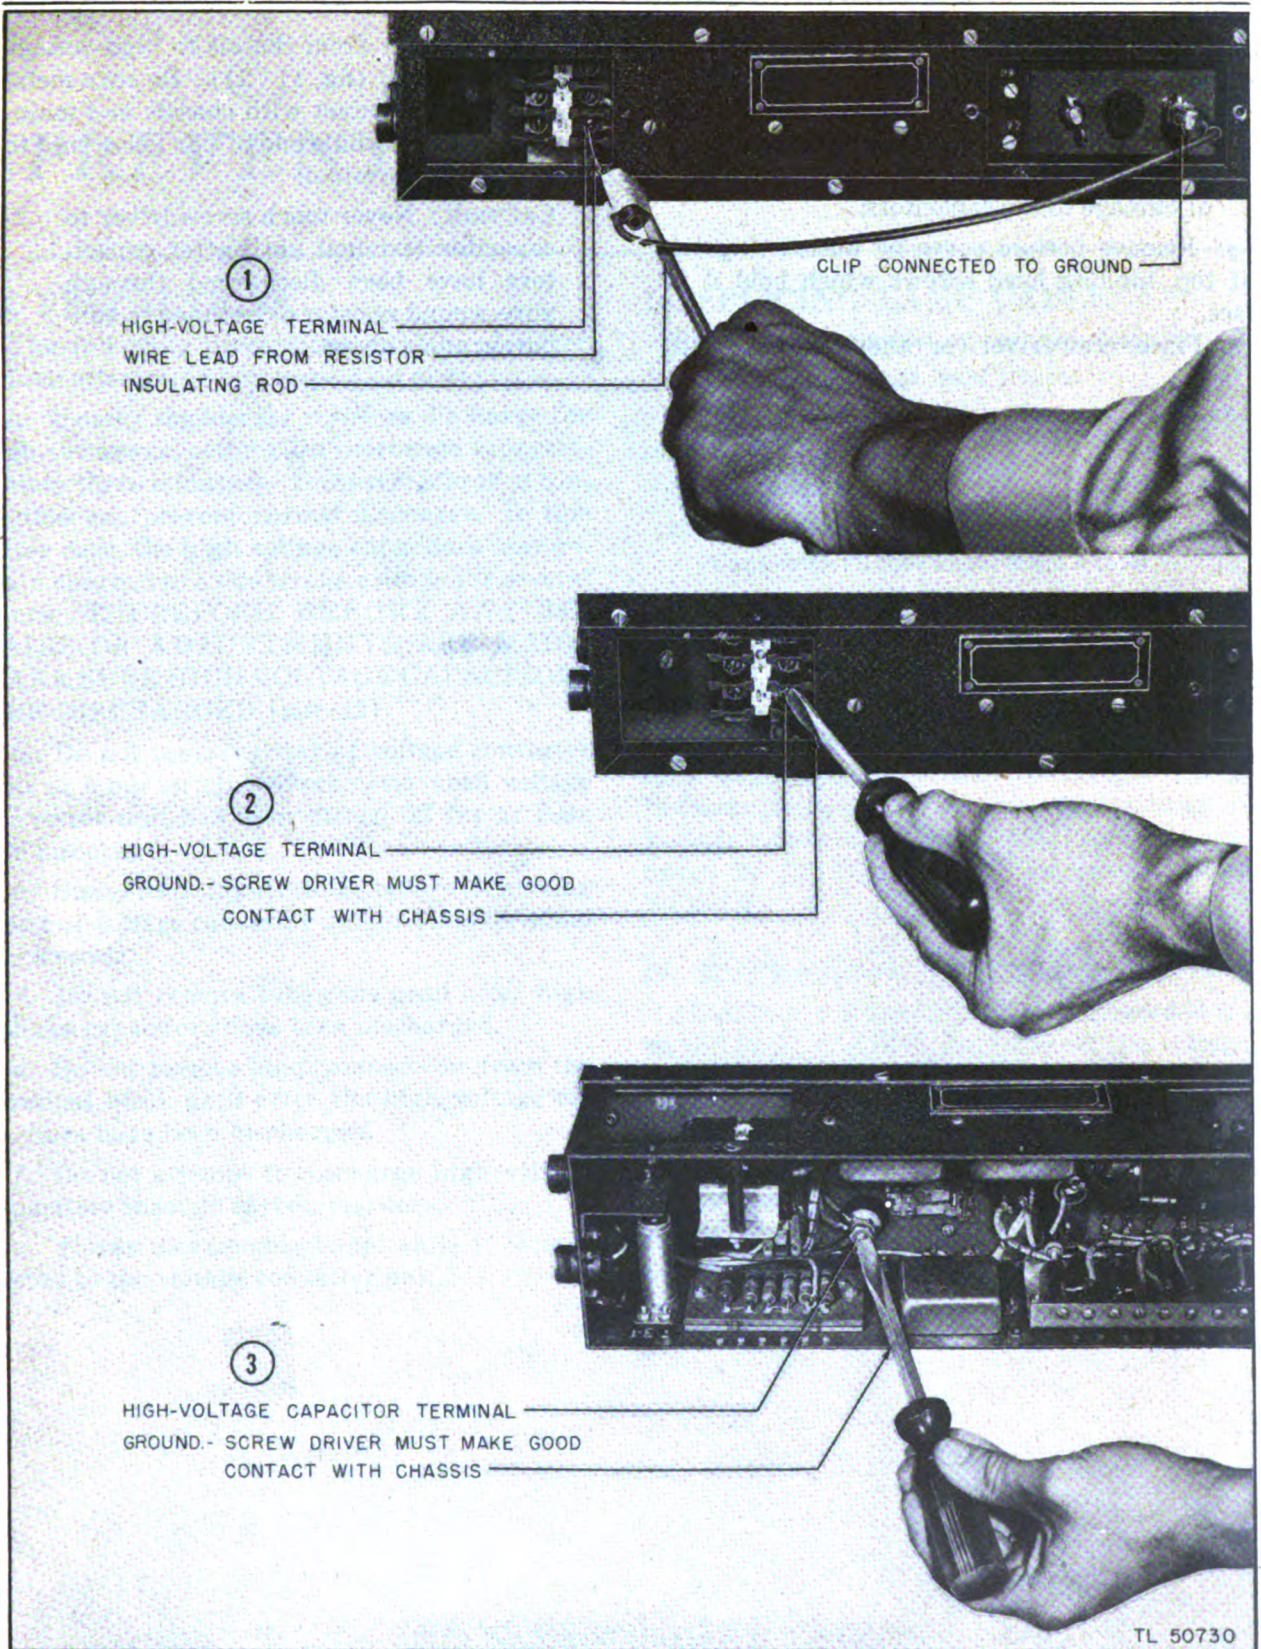

Figure 11. Discharging high-voltage capacitors.
(1) Connect battery clip to any suitable ground on the chassis. Input ground terminal is satisfactory (fig. 11 (1)). Make sure that ground connection is clean and secure. Do not try to ground to a painted surface.
(2) Hold the insulating rod. **DO NOT TOUCH ANY OTHER PART OF THE DEVICE.** Use one hand only. Do not touch anything with the other hand.
(3) Touch No. 16 wire to the high-voltage terminal of the terminal block (fig. 11 (1)). Leave for approximately ½ minute. Unless the unit has been resting unused for a long time, a small spark should appear when the terminal is touched. *If no spark is visible, remove the discharging device and check it for continuity. If the device shows continuity, proceed again exactly as stated above.*
f. Place screwdriver (or other metal bar with an insulating handle) from chassis to high-voltage terminal (fig. 11 (2)). Be sure the metal bar makes good contact with the chassis and maintains good contact while the end of the bar is lowered to touch high-voltage terminal.
insulating handle) from chassis to high-voltage capacitor terminal (fig. 11 (3)). Be sure metal bar makes good contact with chassis and maintains good contact while end of bar is lowered to touch capacitor terminal.